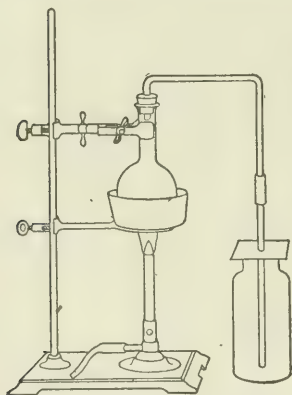

Fig. 73. Preparation of chlorine.
**a. Preparation.** Set up the apparatus as shown in figure 73. Place about 10 g. of granular manganese dioxide in the generating flask and pour in about 25 cc. of concentrated hydrochloric acid. Rotate the flask so as to mix the contents thoroughly.